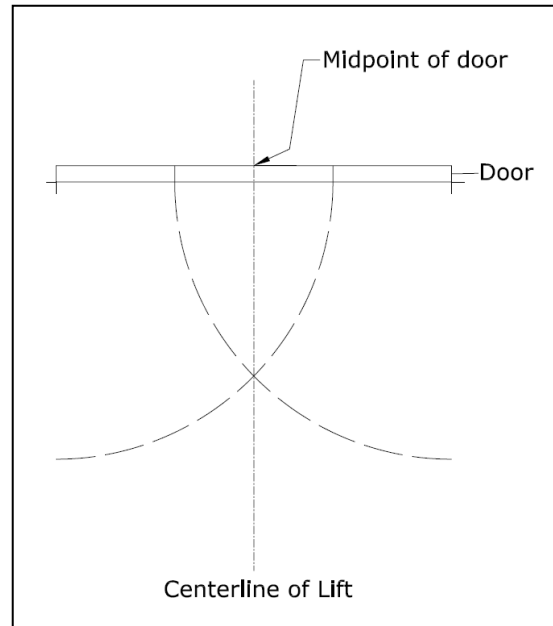

Figure 3. Chalk line
- 5.2.6 Measure the specified distance (126") to draw a second chalk line at 90° for locating the lift towers. Refer to Figure 3.